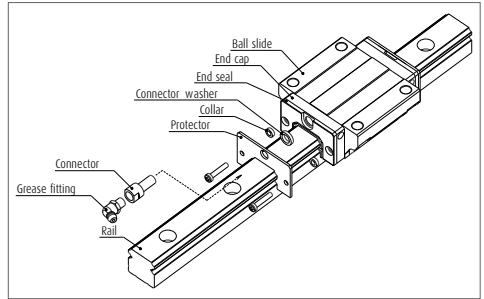
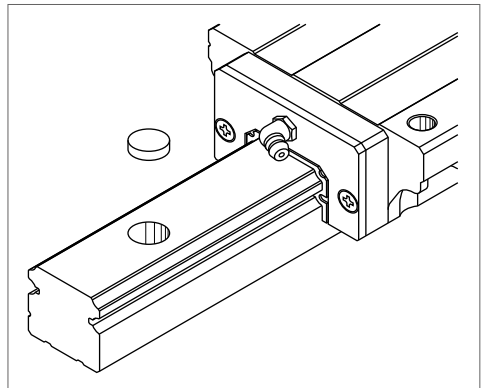

Fig. 7.3 Protector
Fig. 7.4
(2) Protector
- > When attaching a grease fitting to the end cap after the protector is equipped, you require the connector shown in **Fig. 7.3**. Please specify the connector set when ordering the linear guides.
(3) Bolt-hole cap to plug the bolt holes for rail mounting
- > After the rail is mounted to the machine base, a bolt-hole cap is used to plug the bolt hole to prevent foreign matters from clogging up the hole and from entering into the slide (**Fig. 7.4**).